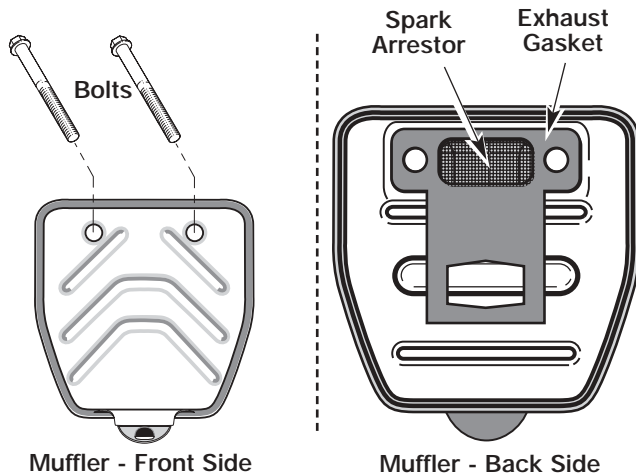

FIGURE 28
2. Locate muffler front and the two (2) bolts securing it to the engine, Figure 28. Remove the two (2) bolts using a flatblade screwdriver or 5/16-inch socket or nut driver. Pull muffler off of the engine.
3. Turn muffler over to the back side and locate the exhaust gasket. Remove the muffler exhaust gasket from the muffler, Figure 28.
7. Place the exhaust gasket against the muffler's back side. Align exhaust gasket bolt holes with the bolt holes in muffler. While holding the exhaust gasket in place, insert bolts into muffler's front side, Figure 28.